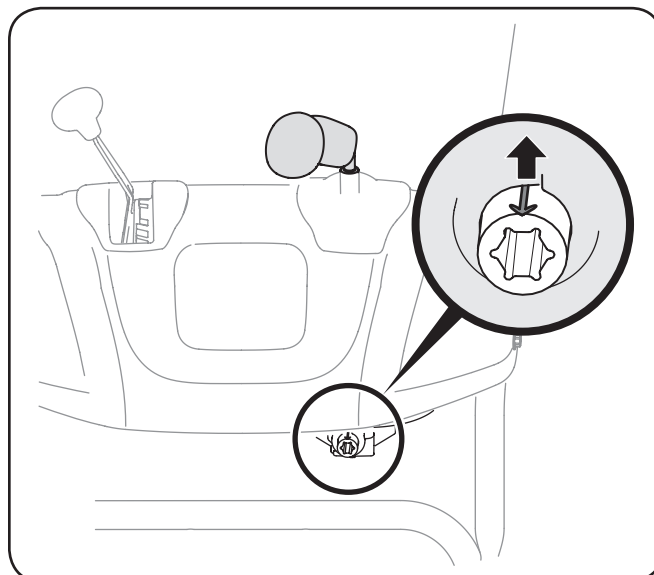

Figure 3-5
5. Rotate the joystick until the silver indicator arrow on the pinion gear below the joystick faces upward. See Fig. 3-5.